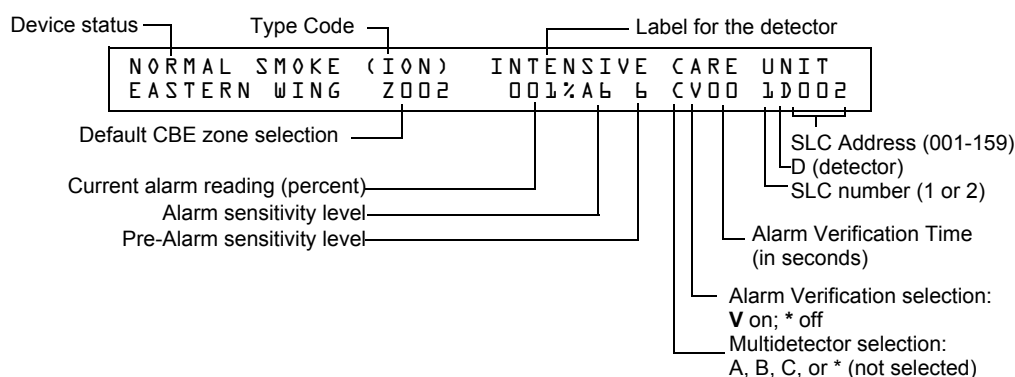

Figure 4.1 Sample Detector Read Status Display
From the “Read Status” screen, press 0, then press the ENTER key. You can now view Read Status for a detector as follows: press DETECTOR, enter the SLC number followed by the three digit address, then press the ENTER key. For example, to read the status of detector 1D002: press DETECTOR, enter the SLC number (1), enter address 002, then press the ENTER key. The control panel now displays information about the detector, as shown in Figure 4.1.